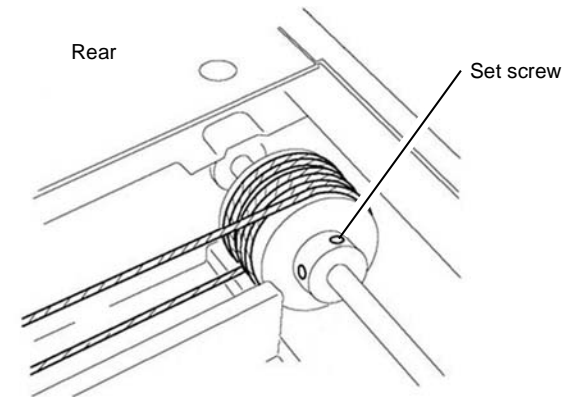

Figure 7 Second rear set screw
9. Tighten the other rear set screw, Figure 7.